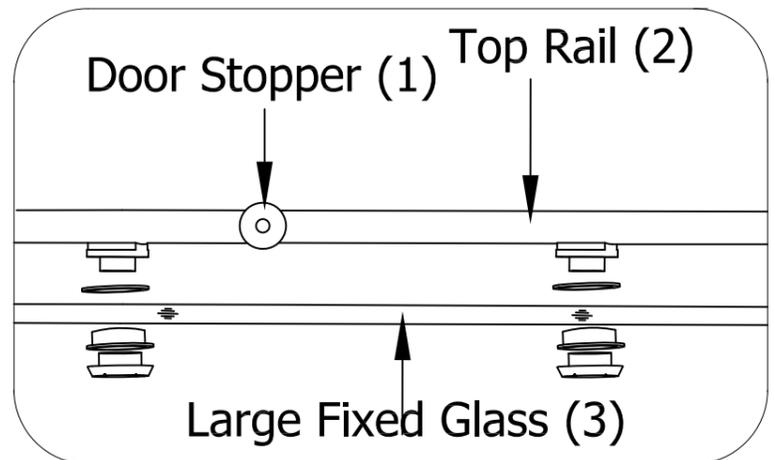

Fig. 5
- Position the Top Rail (2) and Large Fixed Glass (3) as shown in Fig.5 and connect Large Fixed Glass (3) to Top Rail (2) following the assembly sequence shown in Fig.5. Note in Fig.5, one Door Stopper (1) should be positioned between mounting holes in Top Rail (2) before connecting Top Rail to Large Fixed Glass.